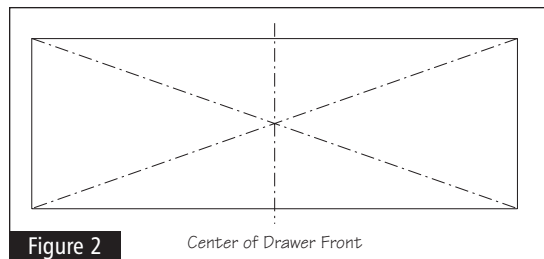

Figure 2
**2** On the back side of the drawer front draw a line diagonally from corner to corner, 2 places. Draw a line at the intersection to locate the center of the drawer front, as shown. See Figure 2